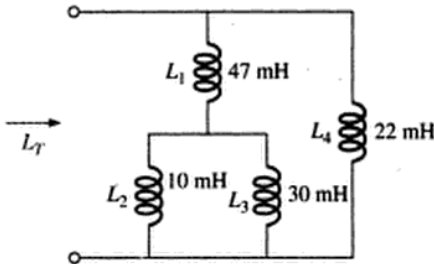

FIG. 11.101
36. Find the total inductance for the network of Fig. 11.101.